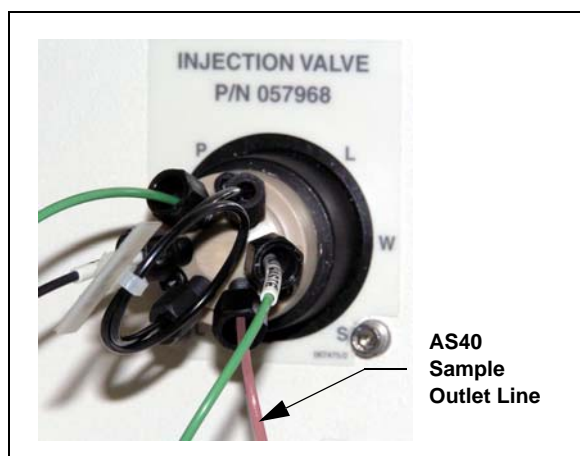

Figure 5. Dionex ICS-900 injection valve
3. Connect the outlet line from the AS40 to port **S** on the injection valve (see Figure 5).